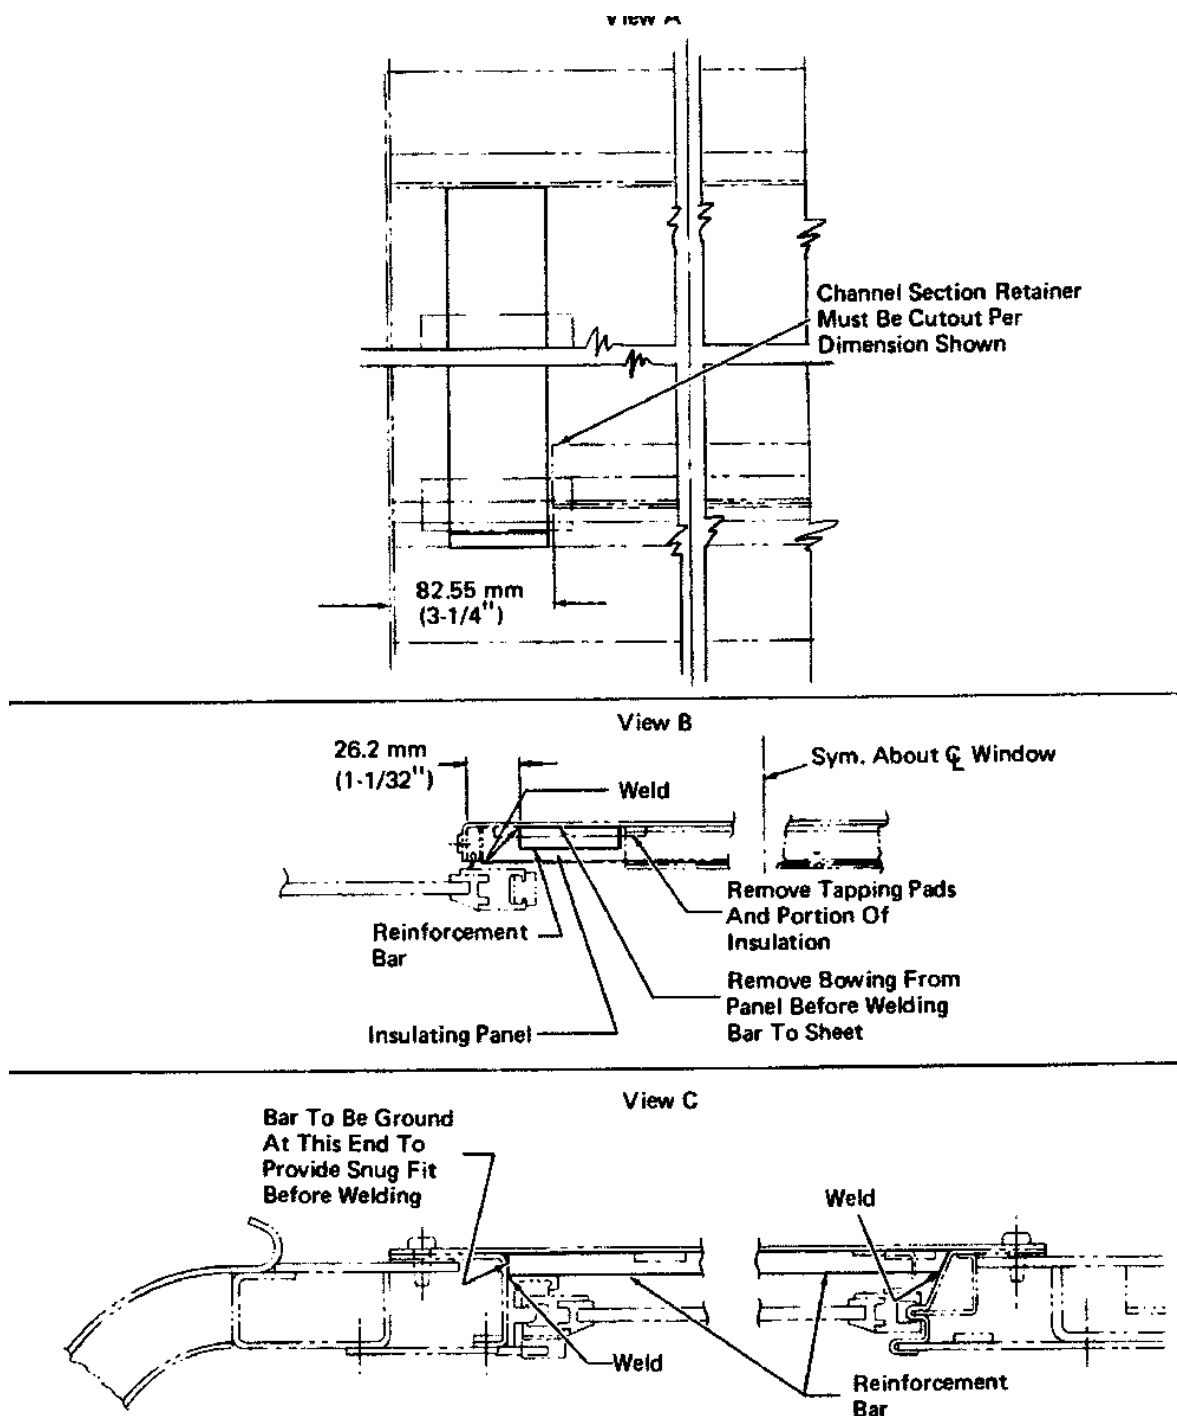

Fig. 19 - Unitized Sash Panel Reinforcement And Repair - Cross Sectional
7. Cut off 82.55 mm (3-1/4") from the channel section retainer, Fig. 19 View A, for the lower edge of the perforated panels, This will allow the application of reinforcing bar.
4. Ensure reinforcement bars are available, and side panel deflection is removed at the inner vertical edge. Panels not severely bowed can be easily straightened by placing reinforcement bar in location shown in Fig. 19, View B. Compress tightly to side sash using large "C" clamps.
1. After proper installation of reinforcing bars, the side panels will be straight. Weld intermittently as shown in Fig. 19, View C.